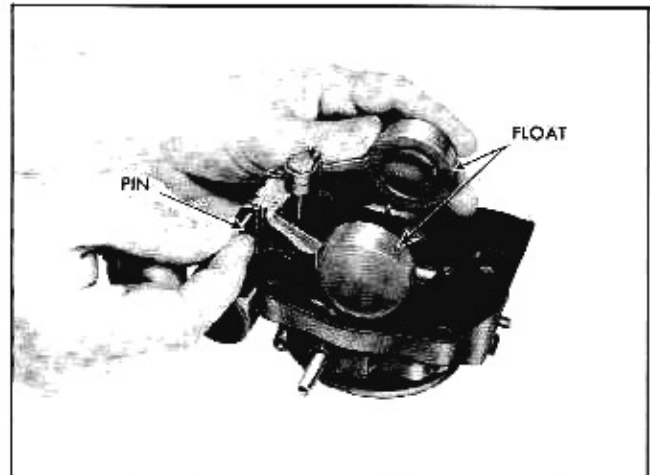

Fig. 6B-17 Removing Float Hinge Pin
2. Remove four screws and throttle return check (automatic only). Lift air horn straight up from bowl so as not to damage floats (Fig. 6B-16). Place air horn float side up on flat surface.